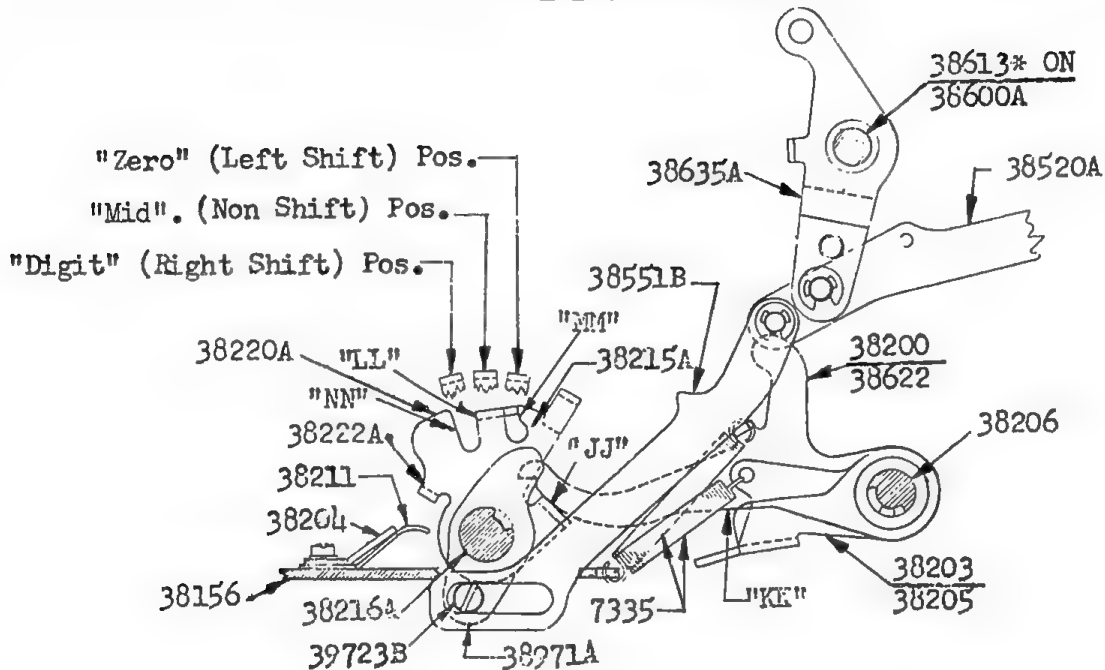

FIG. 34
1. (Fig. 34). As explained in Section I-Para. C-1 on Pages 1209 & 1210, rotation of Master Clutch pulls Link-38520A rearward. Attached to the front end of 38520A is a Link-38551B which rotates Shaft-38216A and Double Lever-38971A, which is tightly keyed to Shaft-38216A. Loosely keyed to Shaft-38216A are the ordinal Shift Control Levers-38215A (and 38222A to the left of the leftmost order, 38220A in
2. (Fig. 34 & 35). Assuming the Keyboard entry is 00040.03000.
3. (Fig. 34 & 35). The Lever adjacent to the left of the leftmost digit (8th order in the example above, will be held in a "Non-Shift" or "Mid" position because its surface "NN" stops against the front face of ear "LL" on the 38215A in the 7th order. The surface "NN" on the 38215A in the 9th order will then stop against the front face of ear "LL" on the 38215A in the 8th order, therefore coming to rest in the "Left Shift" or "Zero" position. (Note that all 38215A's and the 38222A in "Left Shift" position also stop against the keyway in the Shaft-38216A at about the same time).